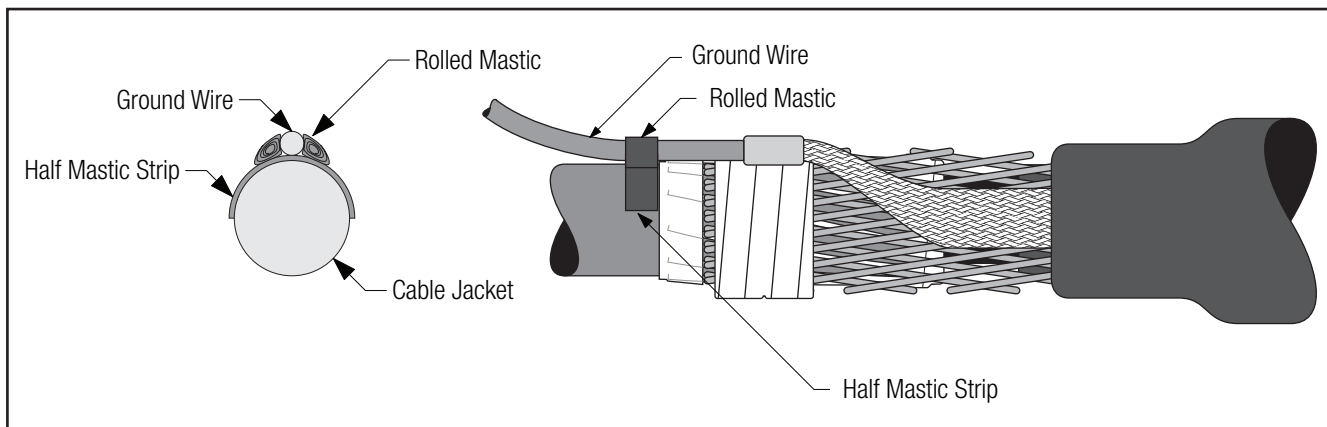

Figure 23
6.2 Cut one mastic sealing strip into two equal pieces. Place one piece on the cable jacket centered under the ground wire near the jacket end. Roll two mastic strips into small rolls. Place one roll on either side of the ground wire. (*Figure 23*).